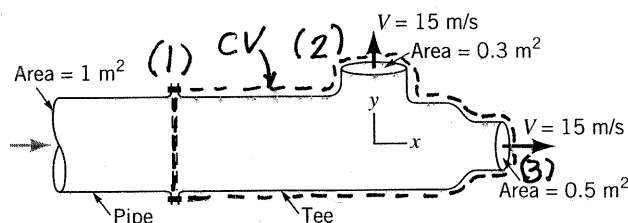

FIGURE P5.33
5.33 Water flows as two free jets from the tee attached to the pipe shown in Fig. P5.33. The exit speed is 15 m/s. If viscous effects and gravity are negligible, determine the x and y components of the force that the pipe exerts on the tee.